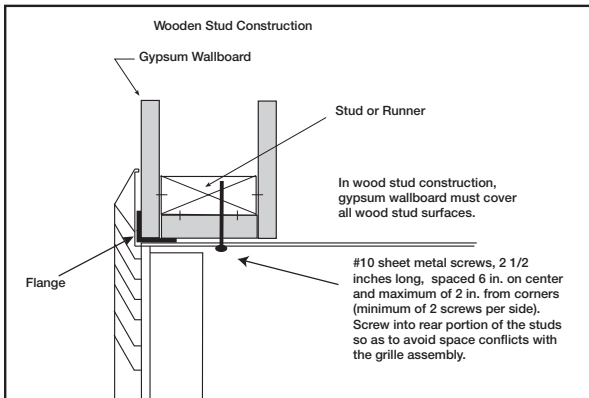
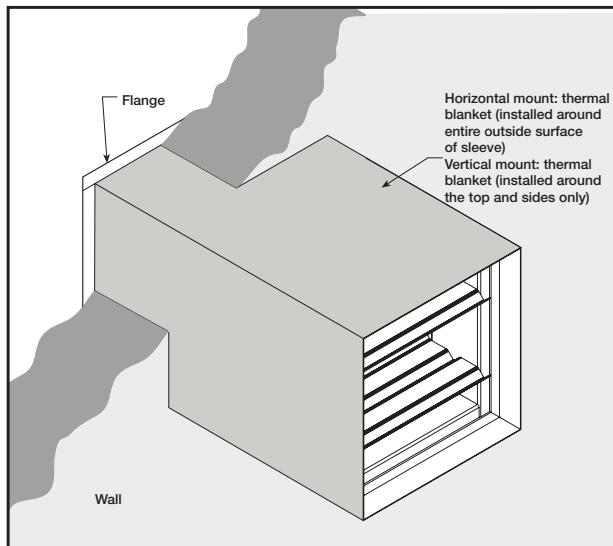

Figure 3 - Wood Stud
Figure 8: Sleeved Damper with Thermal Blanket (duct termination)
- Prepare opening between studs and sleeve assembly as shown below (see **Figure 3 & 4**).
Flange on front (grille end) of sleeve must be a minimum of 16 ga. (1.5 mm) steel and have $\frac{5}{8}$ in. (16 mm) minimum flange leg (refer to **Figure 8**). Using #10 (19 mm) sheet metal screws, screw from inside of sleeve through the rear portion of the studs (as shown in **Figures 3 & 4**). Space screws a maximum of 6 in. (152 mm) O.C. and a maximum of 2 in. (51 mm) from the corners (minimum of 2 screws per side). No retaining angles are required on the side of the wall opposite from the grille.